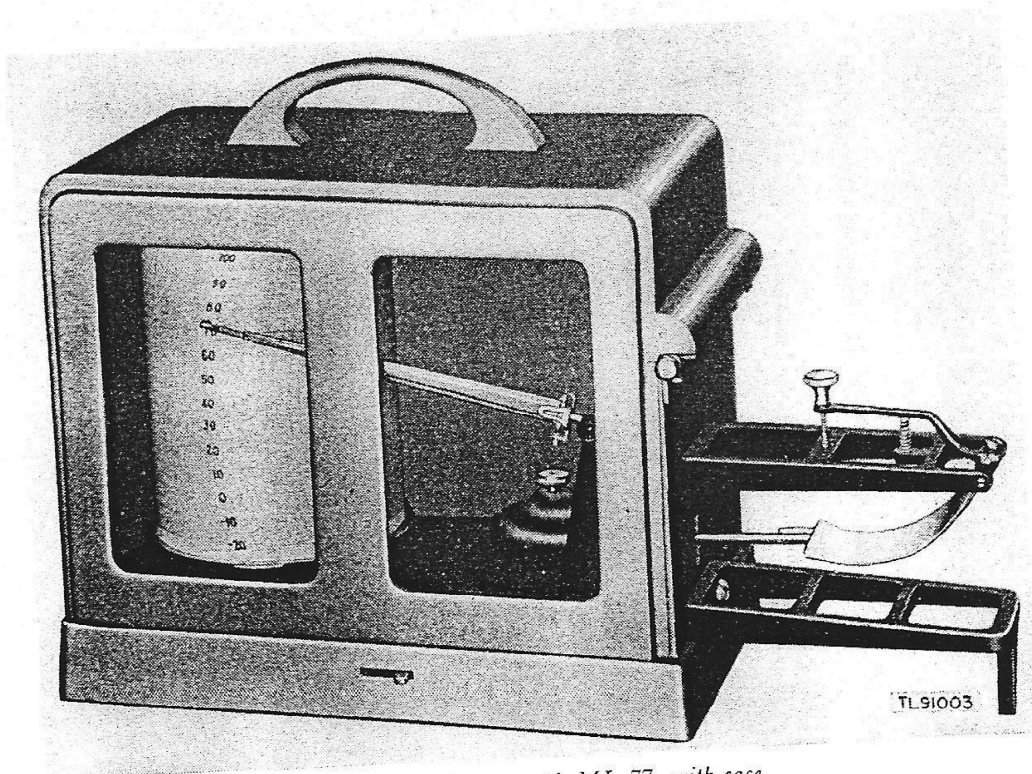
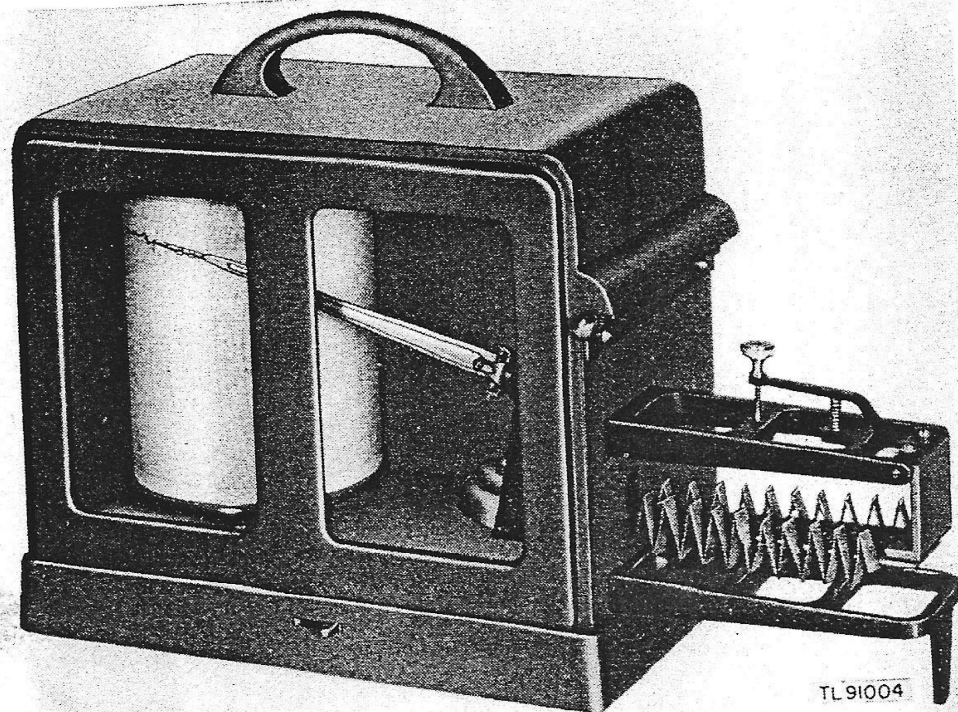

Figure 1. Thermograph ML-77, with case.
Figure 2. Thermograph ML-277, with case.
1. PURPOSE. Thermographs ML-77 (fig. 1) and ML-277 (fig. 2) are self-recording thermometers, each producing a continuous record of temperature over a period of time. Thermograph ML-277 is used in Arctic climates. Thermographs ML-77 and ML-277 each produce either a weekly or a daily record.
2. COMPONENT PARTS. **a. Thermograph ML-77.** (1) The component parts of Thermograph ML-77 are:
h. **Carrying case.** The recording mechanism is covered by a glass-paneled, sheet-metal case which is hinged with a removable pin on the upper right-hand side. When the cover is raised, stops on the hinge prevent the cover from resting on the temperature-adjusting thumbnut. A hook on the left-hand side of the case fits into a ring at the base of the instrument and keeps the case closed (figs. 1 and 2). The handle on the case permits the case to be carried from place to place.